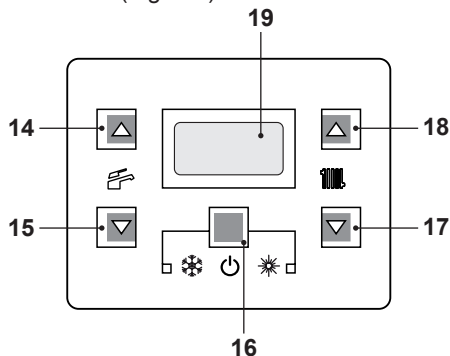
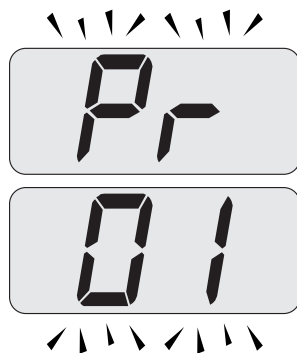

Fig. 8.7
Fig. 8.8
- Enter in "programming mode" by sequentially pressing and holding keys 16 - 17 - 18 (Fig. 8.7) for 10 seconds at the same time until the letters **Pr** that alternate with code 01 are displayed on the LCD display, indicating that "parameter 01", has been activated (Fig. 8.8).
- Press keys 16 and 18 (Fig. 8.7) at the same time until the value of parameter 15 (Fig. 8.10) is displayed on the LCD display.
- By pressing key 16 (Fig. 8.7) confirmation of the inserted value is obtained.
- Press keys 16 and 17 (Fig. 8.7) at the same time to exit without changing the value (return to the parameters list Fig. 8.9).
- Press sequentially keys, 16 - 17 and then 18 (Fig. 8.7) and hold in for 10 seconds to exit the "programming mode".
However, if the ambient temperature is not comfortable, the flow temperature of the heating system can be increased or reduced by  $\pm 15^{\circ}\text{C}$  by pressing the keys 17 (reduce) and 18 (increase) (Fig. 8.7).